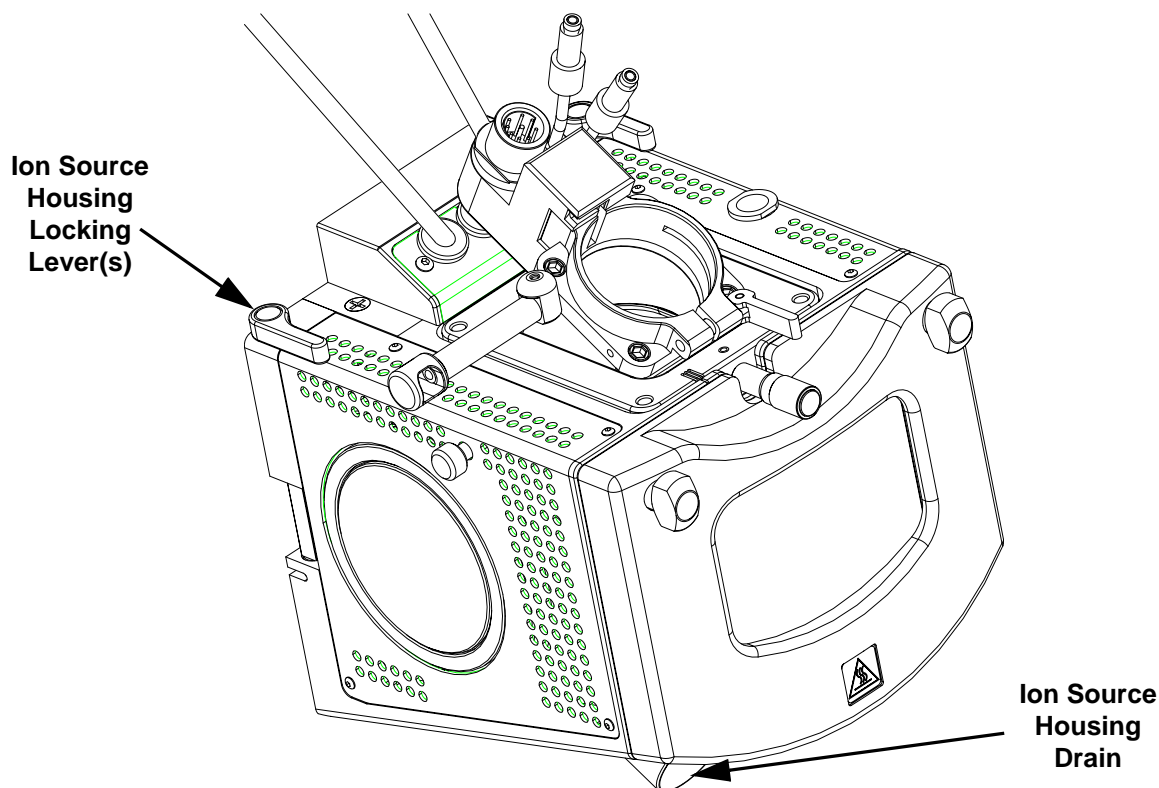

Figure 2-4. Ion Max ion source housing, detail of components
1. Remove the drain tube from the ion source housing drain. See Figure 2-4.